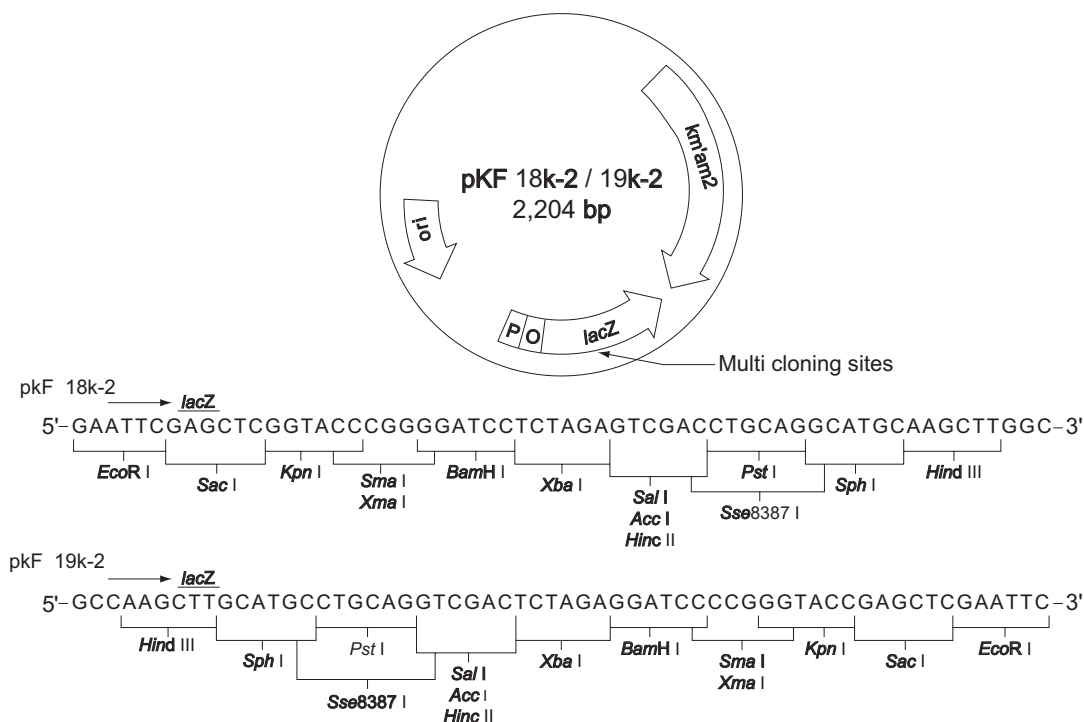

Fig. 1 Cloning site of pKF18k-2/19k-2
* Selection primer and Control Synthetic Oligonucleotide supplied with this kit are already phosphorylated at the 5'-termini to be annealed to the plus chain of *lacZ* gene of pKF18k-2/19k-2 DNA. (Refer to Fig.1)